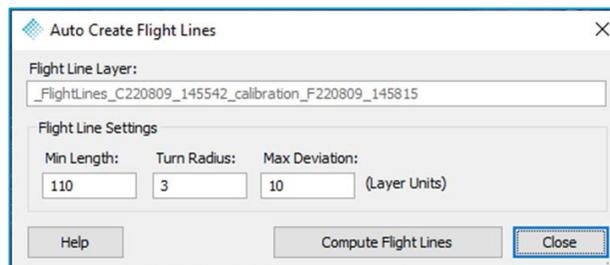

Figure 65 – Auto Create Flight Lines
2. Select the **Auto-Create Flight Lines** tool on the Sensor tab (Figure 63) to open the Auto Create Flight Lines dialog (Figure 65).